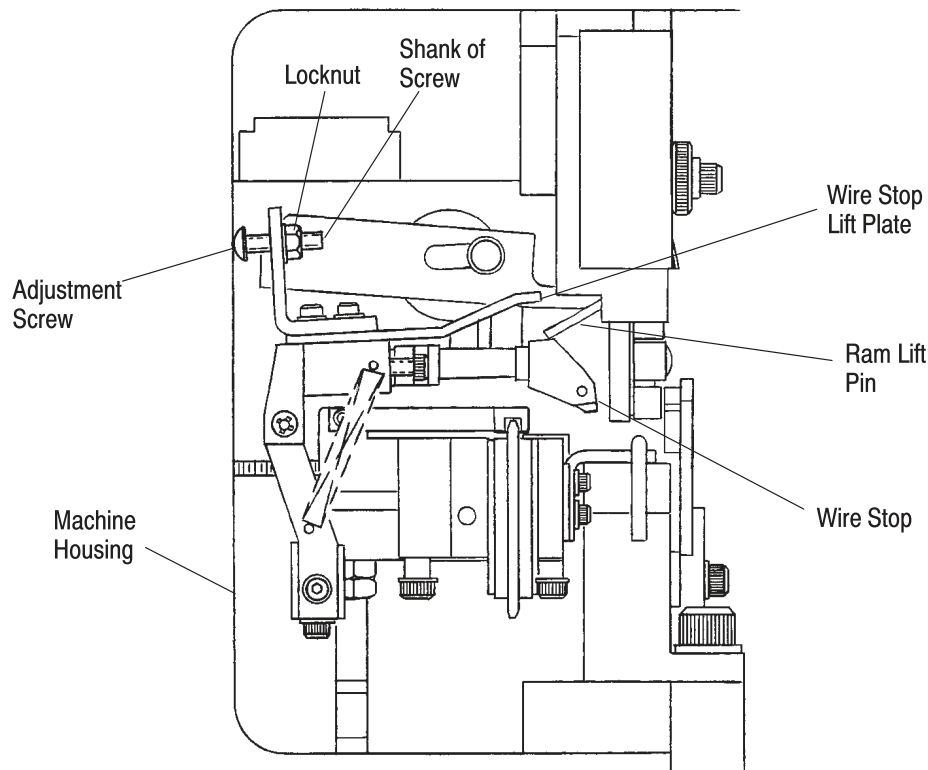

Figure 18
7.3. Wire Stop Vertical Lift Adjustment (Figure 18)